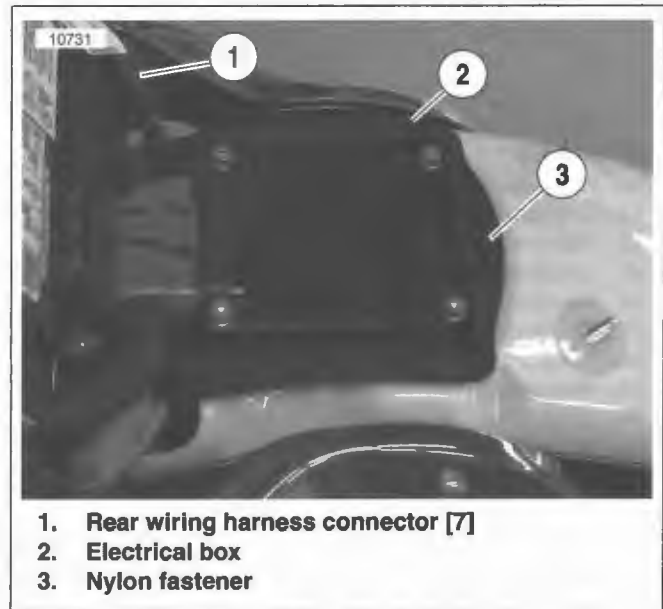

Figure 2-144. Electrical Box: Typical
3. See Figure 2-144. Disconnect rear wiring harness connector (1) [7] under seat.
4. Remove nylon fastener (3) from electrical box (2).
3. See Figure 2-144. Install nylon fastener (3) into electrical box (2) and fender.
4. Connect the harness at connector (1) [7].